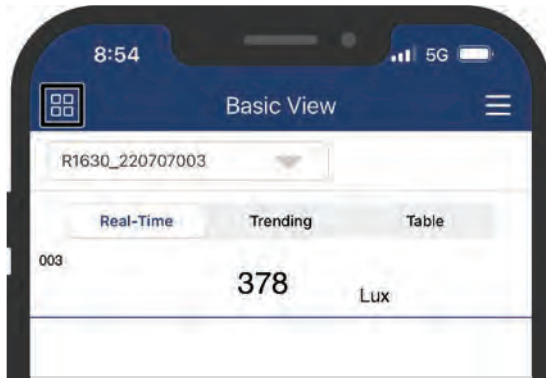

Figure 3
1. Tap on the "Applications Selection Menu" (Figure 3) to switch between Basic View and Volume Flow (Outlet).